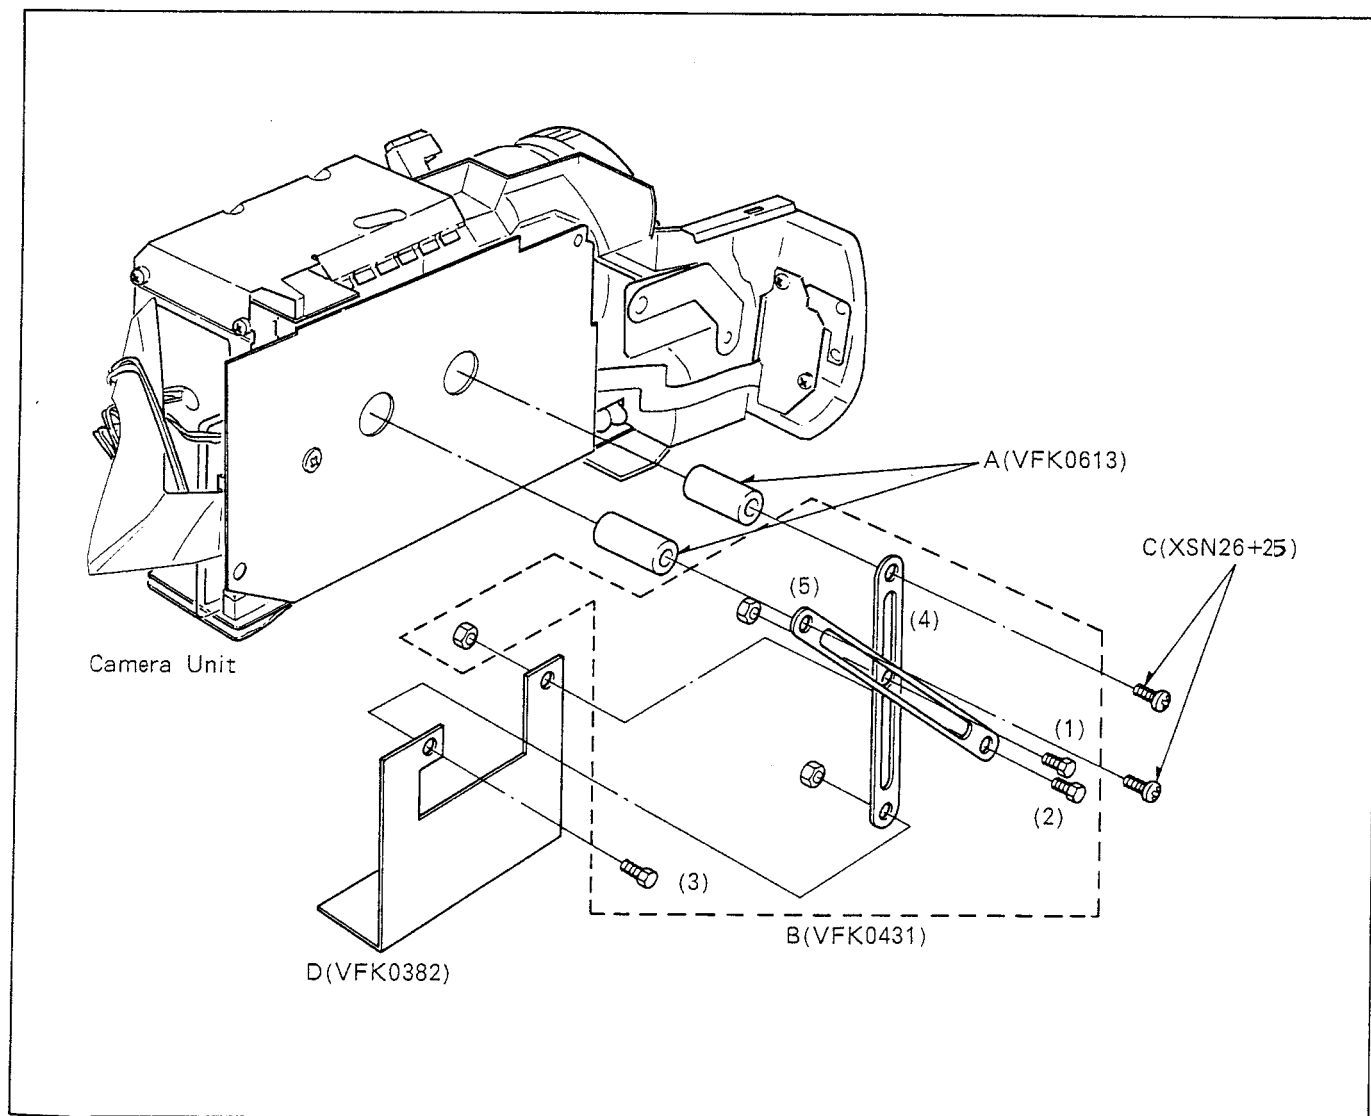

Fig. T2
- (1) Fix the Holder Arm (4) and (5) temporarily by screw (1) as shown in Fig. T2.
- (3) Tighten the screws (C) with the Holder Spacers (A) as shown in Fig. T2.